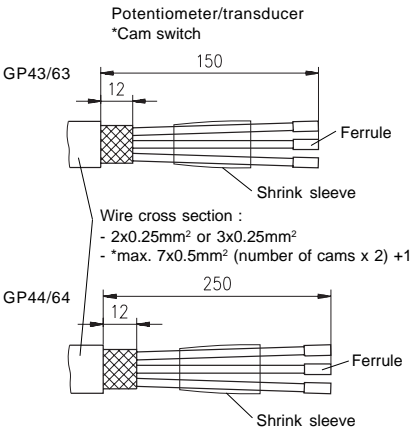

Fig. 2 : Cable preparation
- Prepare wire accord. to fig. 2